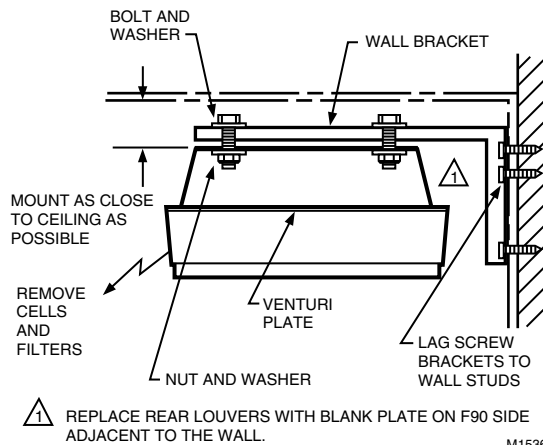

Fig. 12. Mounting F90 using 118638C Mounting Kit.
- Mounted into a wall using the wall mounting hardware accessory. See Fig. 12.
Two wall mounting brackets are used to support the F90. See Fig. 12. The two brackets must be mounted on the wall with 16 in. (406 mm) for the F90A or 8 in. (203 mm) for the F90B between centers so that the lag bolts will align with the F90 mounting holes. Fasten the brackets to the wall studs with lag screws. On masonry walls, use appropriate screw anchors.